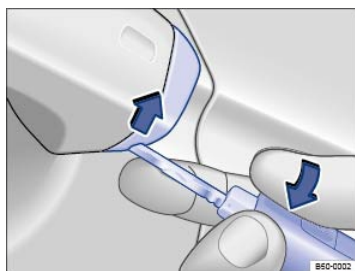

Fig. 209 Door handle on driver door: Removing the lock cylinder cover.
- If the vehicle has a concealed lock cylinder, insert the key bit from below into the opening of the cover cap on the driver door ⇒ Fig. 209 (arrow) and lift the cover cap off. Grasping the door handle and pulling slightly makes it easier to remove the cap.